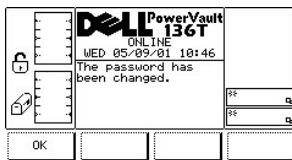

Figure 83. Setup > Utils > Secure > Password Changed Dialog
- n Next, enter the new password into the **New** field, then press the button beneath the **OK** softkey. The password is changed, but it is not saved. See Figure 83.